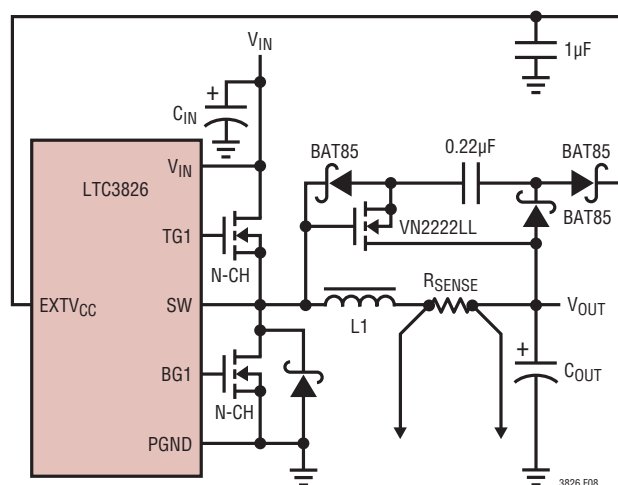

Figure 8. Capacitive Charge Pump for EXT_{VCC}
4. **EXTV_{CC} Connected to an Output-Derived Boost Network.** For 3.3V and other low voltage regulators, efficiency gains can still be realized by connecting EXTV_{CC} to an output-derived voltage that has been boosted to greater than 4.7V. This can be done with the capacitive charge pump shown in Figure 8.